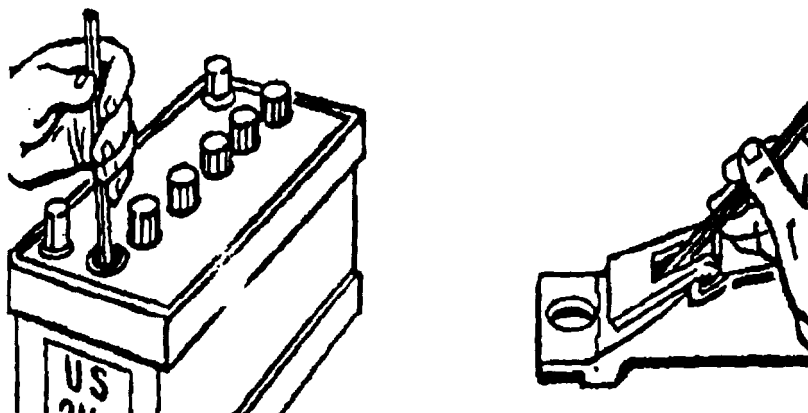

Figure 3-2
- (2) Clean the plastic cover and measuring window of the tester. Wipe with a clean soft cloth. Thoroughly clean the eyepiece lens with water.
- (3) Swing the plastic cover down until it rests against the measuring window.
- (4) Perform a separate test for each battery cell.
- (5) Using the black dipstick, place a few drops of electrolyte on the exposed portion of the measuring window (Figure 3-2).